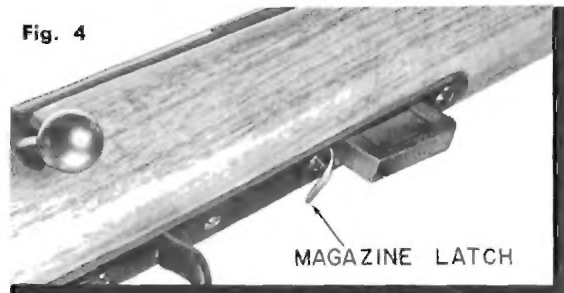

Fig. 4
TO LOAD MAGAZINE — The Model 581 clip magazine may be removed by pushing rearward on magazine latch (Fig. 4) and pulling clip from bottom of rifle. Load cartridges into magazine. When fully loaded, magazine will hold five (5) cartridges. To reassemble magazine into rifle, fit channel opening on back of magazine over end of magazine guide. Push magazine upward until locked into place by magazine latch. To load the Model 582 tubular magazine, unlock by turning knurled plug at front end of tube. Pull tube forward from magazine until loading port is open. Load cartridges into port, bullet end forward. Magazine is loaded to capacity when bullet end of last cartridge shows in port. Close tube over cartridges, rotating until plug can be again locked to magazine. If magazine is loaded beyond capacity, plug will not lock into magazine.